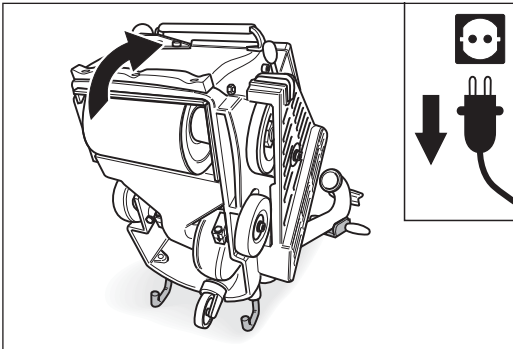

Fig. 80 Tilt the machine backwards. **Ensure that the machine is standing securely!**
- 3 Tilt the machine backwards over the safety guards so that you can see the wheel bearings (Fig. 80). **Ensure that the machine is standing securely!**
- 6 Tilt the machine backwards over the safety guards (Fig. 80). **Ensure that the machine is standing securely!**